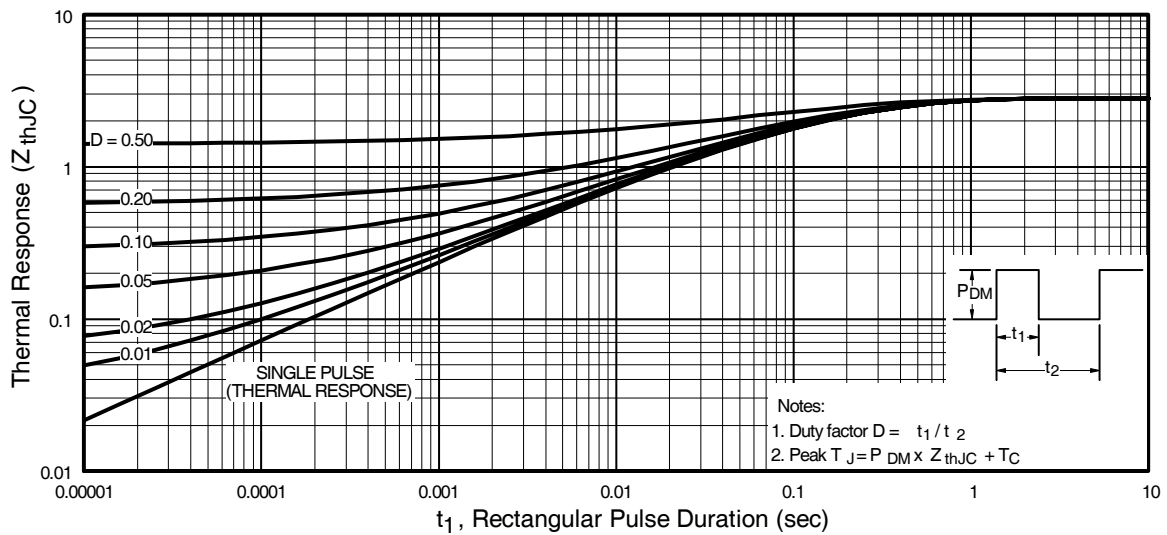

Fig 11. Maximum Effective Transient Thermal Impedance, Junction-to-Case
① Repetitive rating; pulse width limited by max. junction temperature. (See fig. 11)
② $V_{DD} = 25V$, starting $T_J = 25^\circ\text{C}$, $L = 530\mu H$